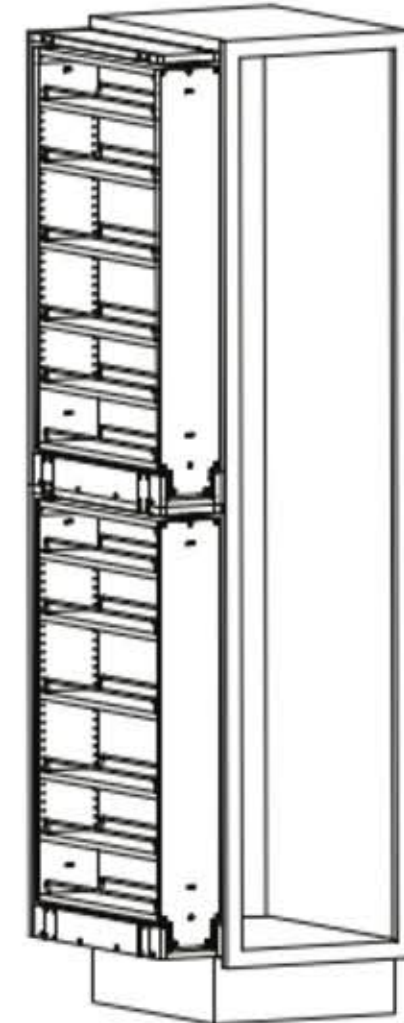

Fig 8
Step 6. Mount filler cabinet pull-out to adjacent cabinet 1 through pre-drilled holes from inside of cabinet. (See fig. 8).
Étape 6. Monter le module coulissant sur l'armoire adjacente 1. (Voir la figure 8).